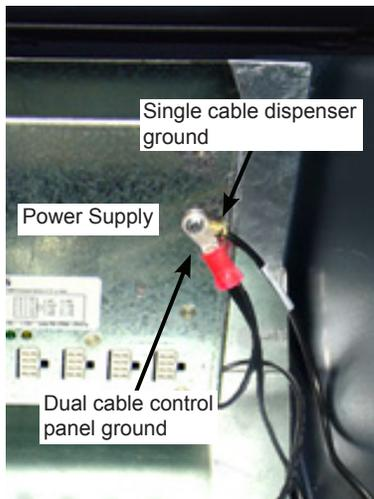

Figure 23. Control panel and dispenser ground connection
3. Refer to Figure 23 on page 10. Disconnect the DC power cable for the dispenser at the dispenser. Feed the cable up into the top cabinet enclosure.
6. Refer to Figure 23 on page 10. Disconnect the dispenser communication cable at the dispenser and pull it
- Refer to Figure 23. Secure the ground straps for the control panel and one end of the ground strap for the dispenser to the power supply.